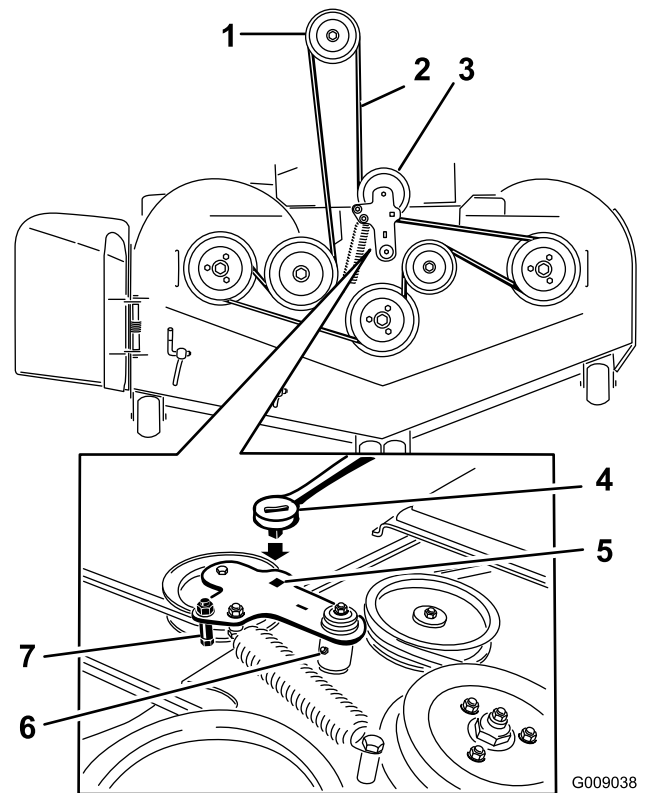

Figure 93
5. Lift up the floor pan and insert a ratchet into the square hole in the deck idler (Figure 93).
6. Rotate the deck idler clockwise and remove the mower belt (Figure 93).